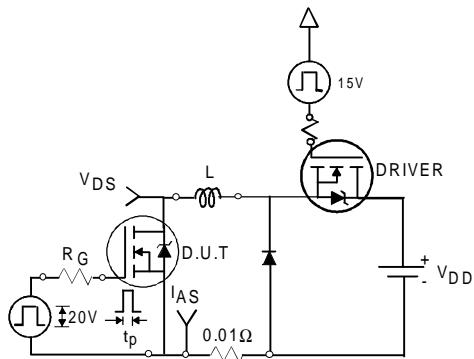

Fig 12a. Unclamped Inductive Test Circuit
- ③ $I_{SD} \leq 78\text{A}$, $di/dt \leq 320\text{A}/\mu\text{s}$, $V_{\text{DD}} \leq V_{(\text{BR})\text{DSS}}$, $T_J \leq 175^\circ\text{C}$
- ④ Pulse width $\leq 400\mu\text{s}$; duty cycle $\leq 2\%$.
- ⑤ $C_{\text{oss eff.}}$ is a fixed capacitance that gives the same charging time as C_{oss} while V_{DS} is rising from 0 to 80% V_{DSS} .
- ⑥ Calculated continuous current based on maximum allowable junction temperature. Package limitation current is 75A.
- ⑦ Limited by $T_{J\text{max}}$, see Fig.12a, 12b, 15, 16 for typical repetitive avalanche performance.
- ⑧ Uses IRF1407 data and test conditions.
3. Equation below based on circuit and waveforms shown in Figures 12a, 12b.